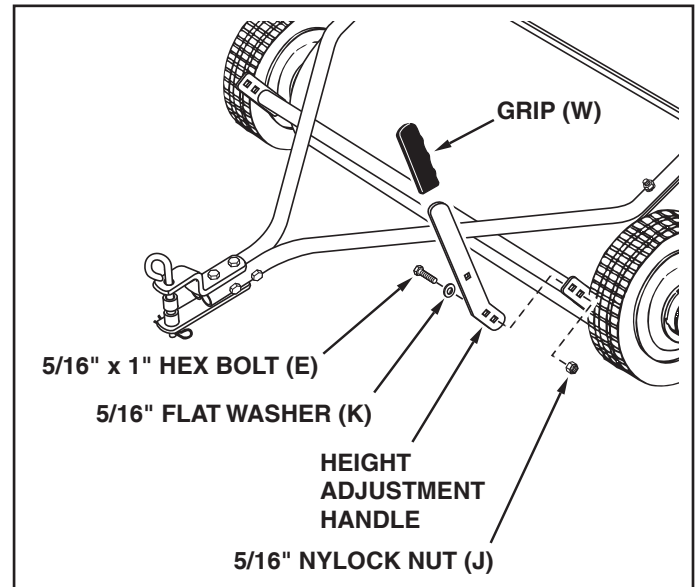

FIGURE 8
STEP 7: (SEE FIGURE 8)
- Assemble the height adjustment handle to the **inside** of the bracket on the end of the height adjustment tube. Use two 5/16" x 1" hex bolts (E), 5/16" flat washers (K) and 5/16" nylock nuts (J). **Tighten.**
- Assemble the grip (W) onto the height adjustment handle.